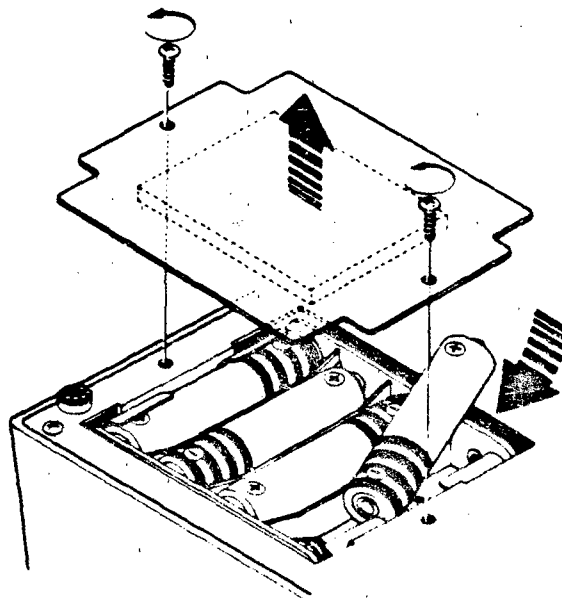

Fig. 2 Battery installation
Turn the Power Switch OFF before making connections. Connect the AC power cord as shown in Fig. 2.
- (1) Obtain four (4) common "AA" cells.
- (2) Remove the lid as shown in Fig. 2. Install the batteries observing correct polarity. Replace the lid.
- (3) After the batteries are installed, place the POWER switch ON and verify that the LED lights.